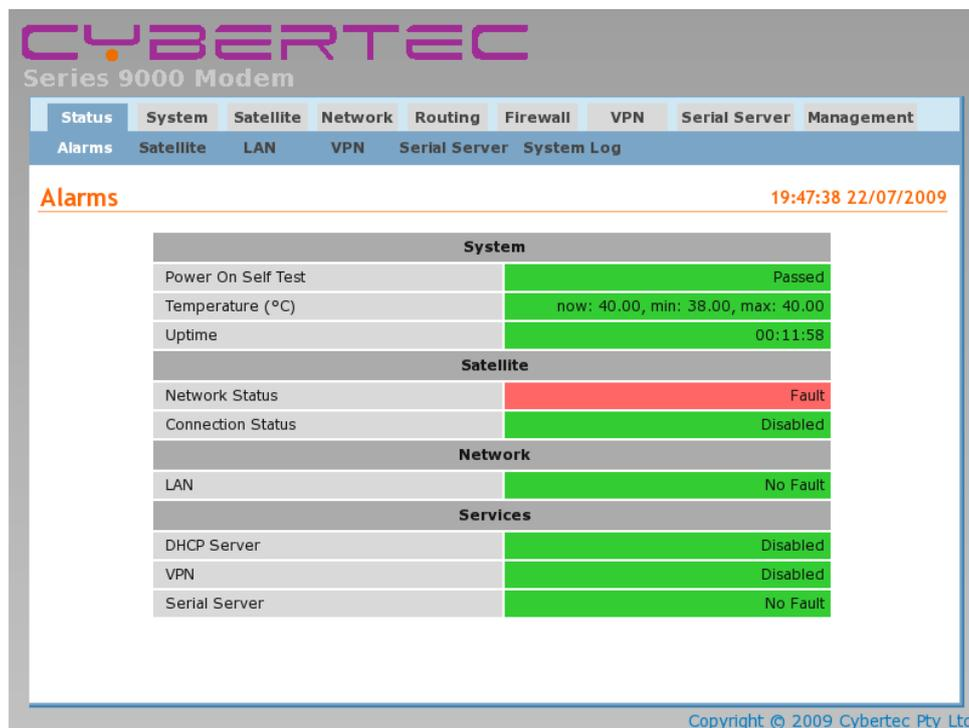

Figure 25: Status summary
- The Status summary page will be displayed, it will be similar to Figure 25.